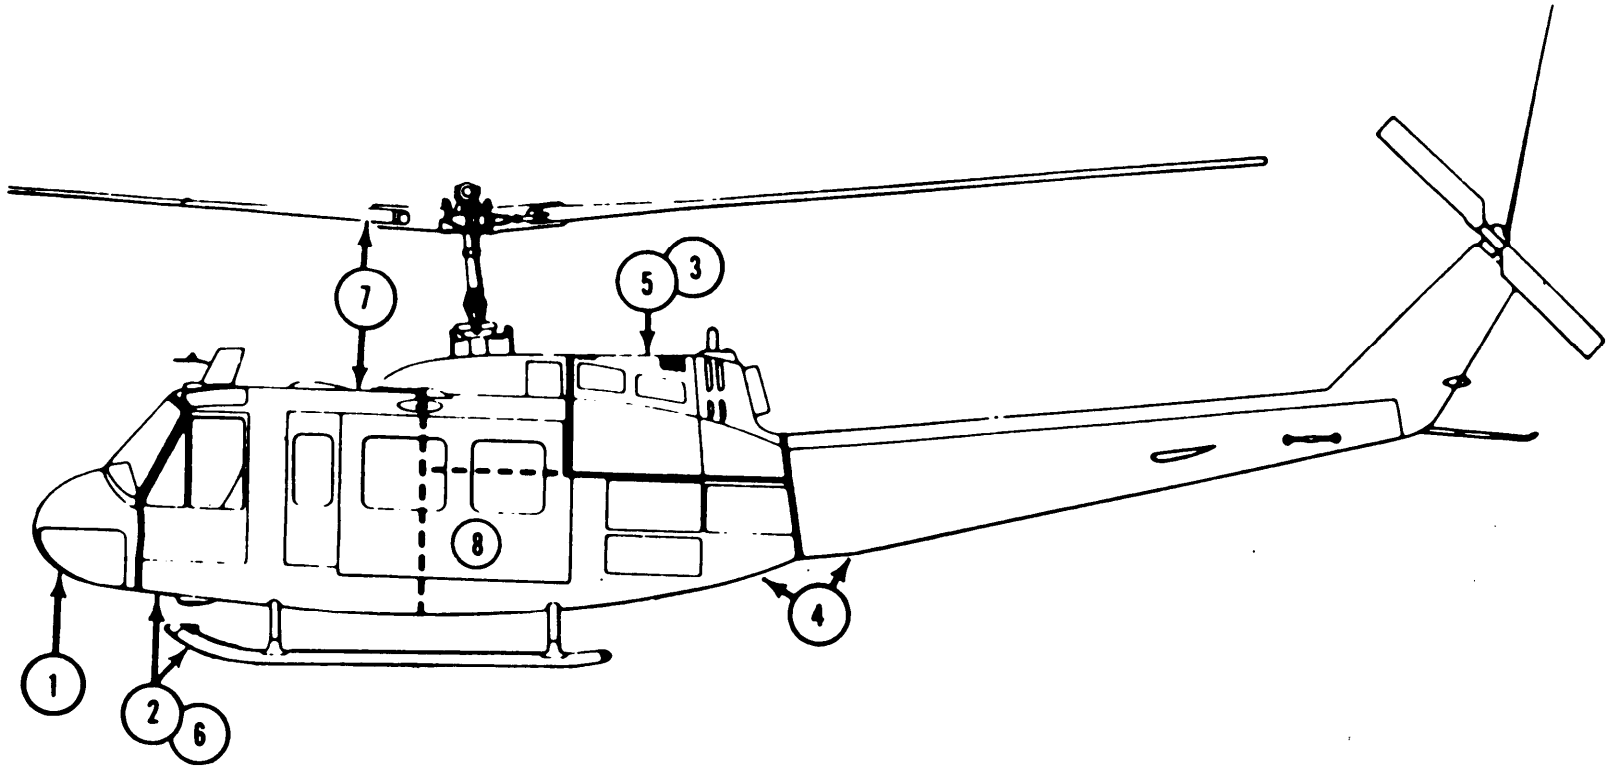

Figure 1. Inspection areas
6. Inspection Areas Inspection areas are shown in Figure 1.